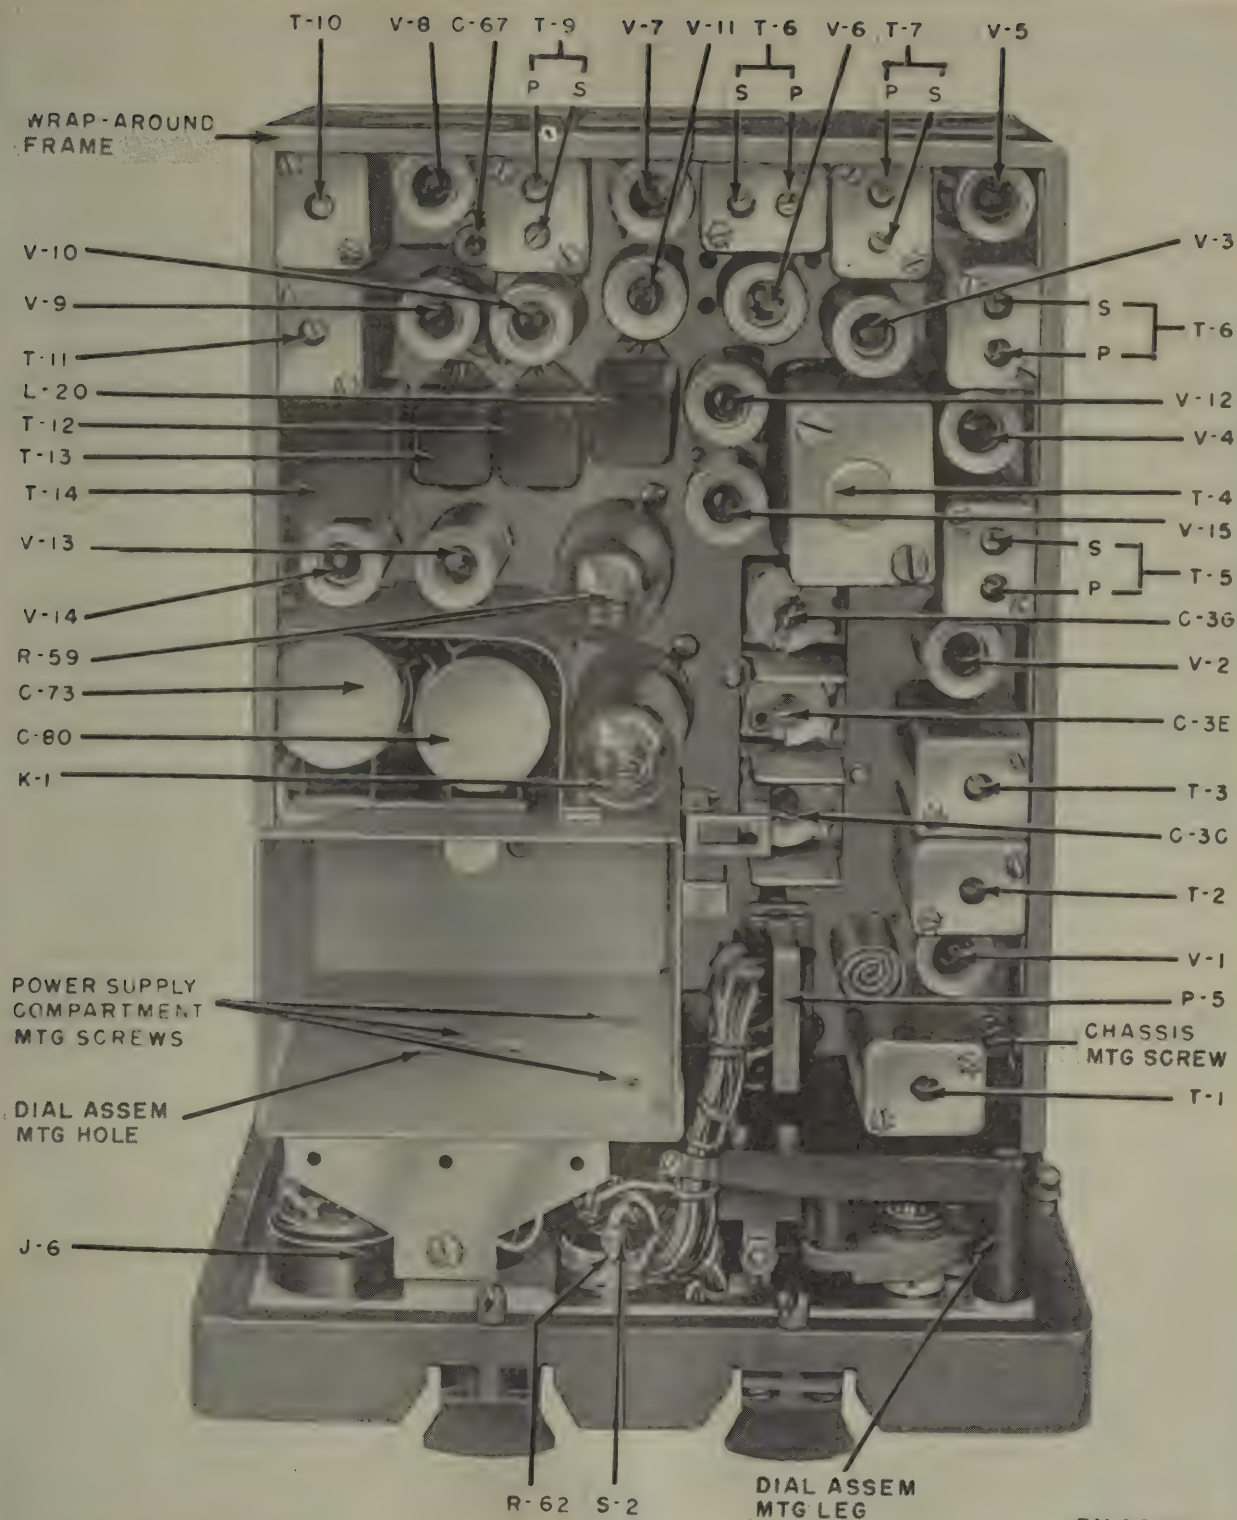

Figure 55. Auxiliary receiver panel-chassis assembly, top view.
a. Tubes V-1 through V-11 are mounted on the r-f chassis (fig. 55). Tubes V-101 through
tube are located at the top of the chassis (fig. 55). Either component can be removed in the same manner as any standard octal-base tube. Pull straight upward. Do not rock or jiggle the tube in its socket.
c. Tubes. All the tubes are accessible from the top of the chassis when the case is removed (fig. 55). To remove any tube, first remove the shield and then use a tube puller. Do not rock or jiggle the tubes. They are damaged easily.